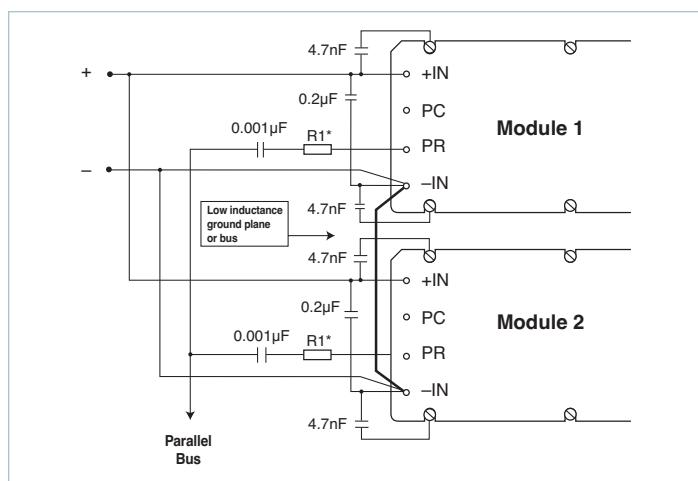

Figure 2.7 — AC-coupled single-wire interface
1. **AC-coupled single-wire interface:** All PR pins are connected to a single communication bus through $0.001\mu F$ (500V) capacitors. This interface supports current sharing and is fault tolerant except for the communication bus. (Figure 2.7) This method may normally be used with a maximum of three converters.